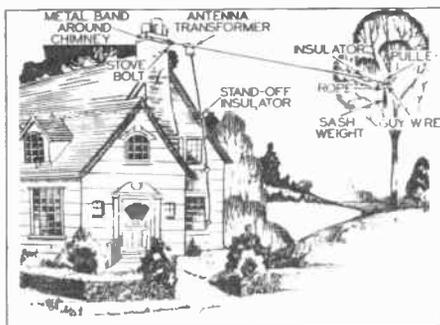

FIG. 1. All-wave antenna installation employing a chimney and a tree as supports.
*Example No. 1.* Suppose that you are to install an all-wave antenna on a suburban or country home like that shown in Fig. 1, which has a brick chimney extending about 5 feet above the ridge of the roof; there is
FIG. 1 Typical radio cabinet touch-up kits. Left—RCA refinishing kit, containing cleaning oil, rubbing oil, abrasive powder, sandpaper, an assortment of stick shellac, two packages aniline stain powders, one touch-up brush, one spatula, one rubbing block and an instruction sheet in a leatherette case. Right—Golden Star touch-up kit, a similar but larger unit in a carrying case. Furniture polish, cheese-cloth and an alcohol lamp are included with this kit.